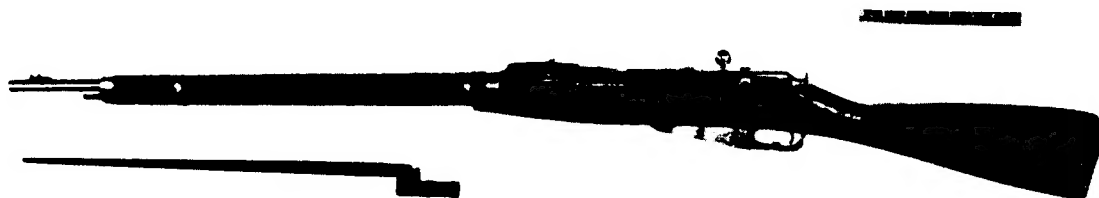

FIGURE 2. 7.62-MM RIFLE M1891, DRAGOON.
b. The Dragoon rifle M1891 (fig. 2) was originally developed as a weapon for heavy cavalry. Manufacture of this rifle was discontinued about 1930, when it was replaced by the rifle M1891/30. The Dragoon rifle M1891 is believed to be obsolete, but it may be found in limited quantity in satellite armies.